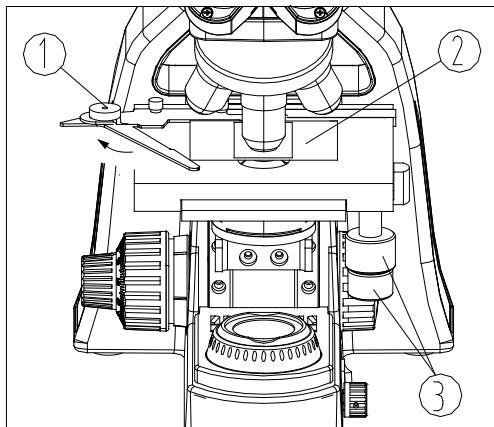

Fig. 8
1. Push the slide finger ① of the specimen holder out to the left.
2. Place the slide ② into the slide holder with the cover glass facing up and release the slide finger slowly so it closes and secures the slide in place.
3. Rotate the X and Y-axis knobs ③ to move the slide into position. (Fig. 8)